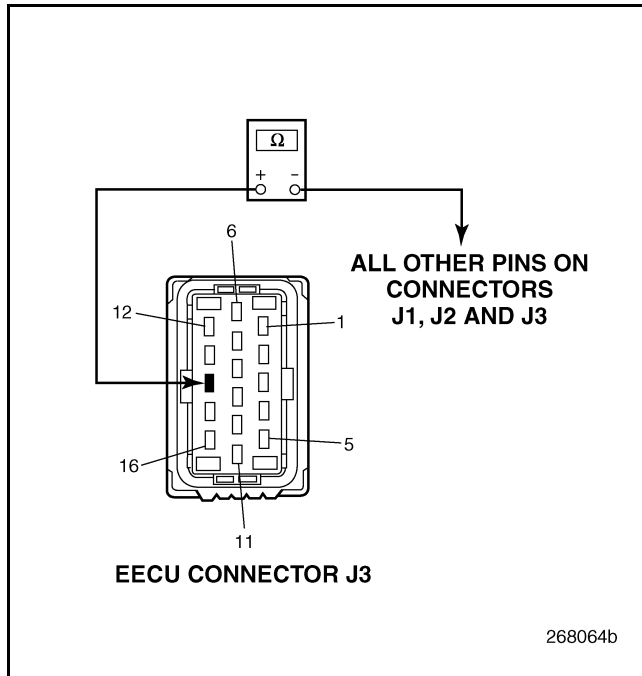

Figure 776
4. Check for continuity between the EECU harness connector J3 pin 14 all other pins on EECU connectors J1, J2 and J3 (see Figure 776).